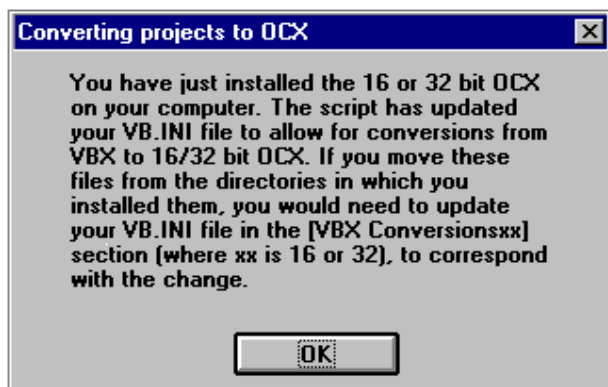

FIGURE 38. TabPro Converting projects to OCX Dialog
- 8.72 Touch the 'OK' button on the 'Converting projects to OCX' dialog. See Figure 38